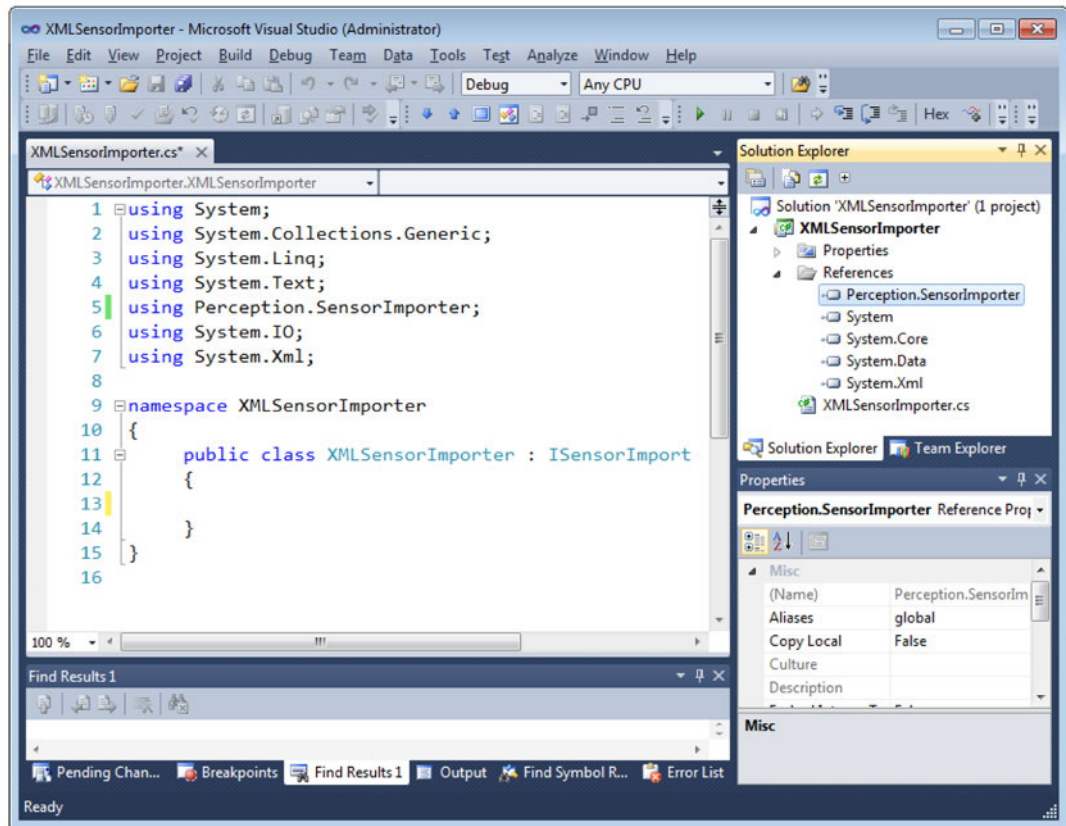

Figure 3.108: Example of XMLSensorImporter
- 5 Set the reference property **Copy Local** to **False** (see Figure 3.108).